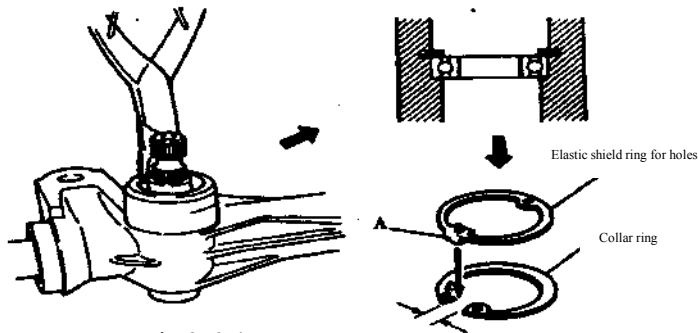

Fig.3.6-4
- 8) Set the collar ring into the ring groove of the steering gear housing tightly, and install the elastic shield ring for holes. The outstanding part "A" shall face the open part of the elastic shield ring and install the oil seal (new oil seal must be used). Please refer to Fig.3.6-4.